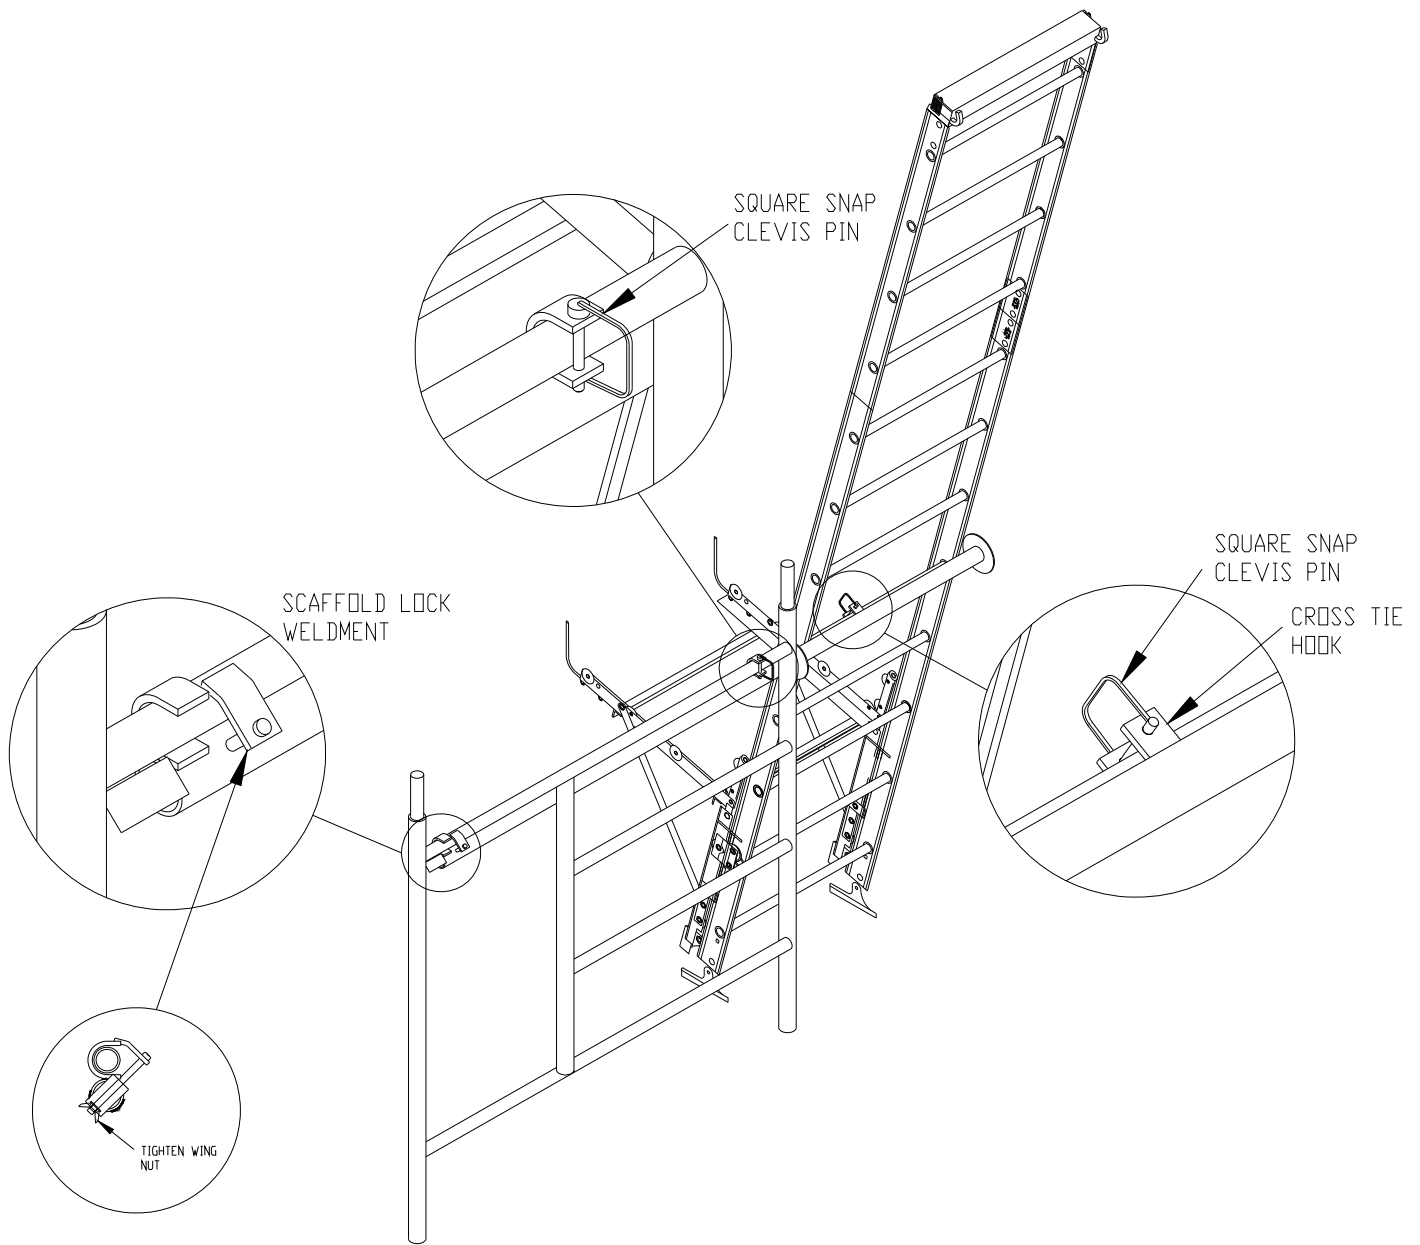

FIG. 2
2. Secure the Support Arm using the supplied square snap clevis pin and scaffold lock, as shown in FIG. 2.
3. Position the hoist track between the two permanently mounted large washers on the support arm, with a track cross tie placed in the cross tie hook. Secure the crosstie in the hook with the supplied square snap clevis pin, as shown in FIG. 2.